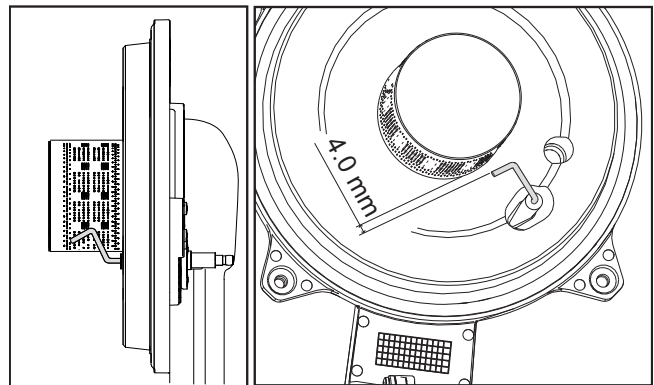

fig. 40
- After fastening, carefully check the distance between the electrodes and burner (see fig. 40).